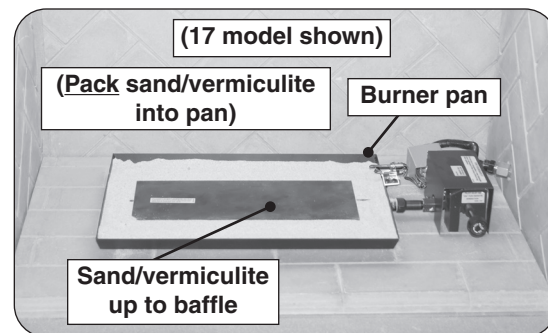

Fig. 19-1 Place sand/vermiculite
1. Partially fill the burner pan with the sand/vermiculite until it rests just below the center flame baffle as shown in Fig. 19-1.